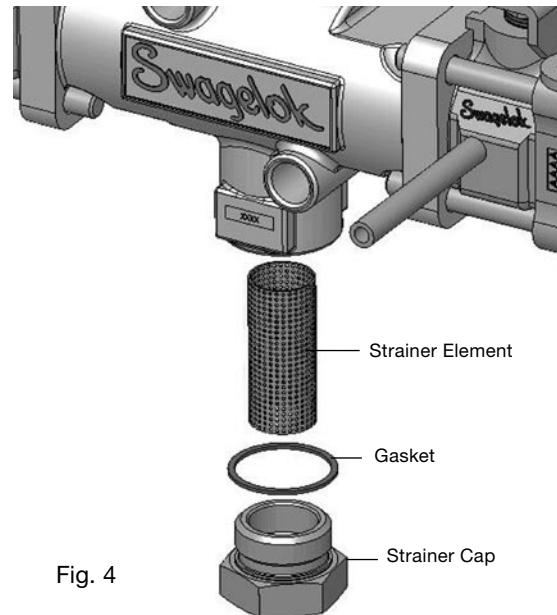

Fig. 4
8. Install the **strainer element**, the **new gasket**, and the **strainer cap**. See Fig 4.